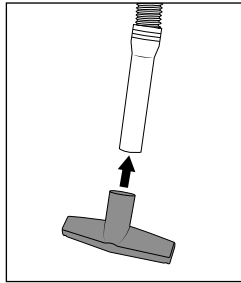

Fig. 10
- ◆ Push the upholstery nozzle ㉑ onto the suction hose ⑳ to vacuum upholstery or curtains, for example (see fig. 10).